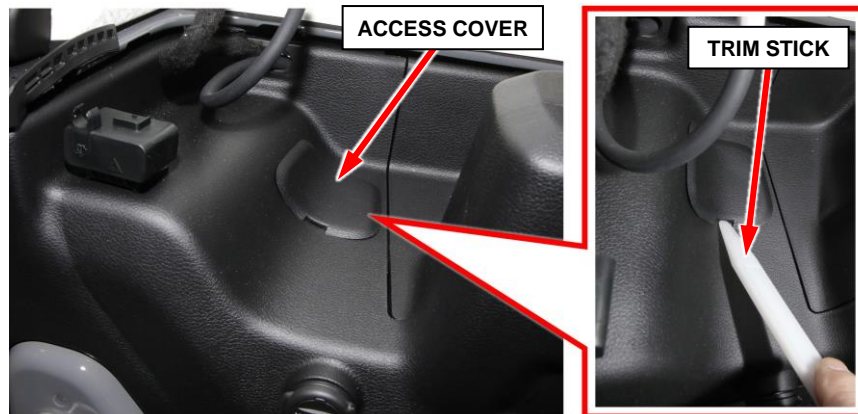

Figure 2 – Tail Lamp Bolt Access Cover
4. Using a trim stick, remove the tail lamp bolt access cover (Figure 2).
15. Install the access cover over the tail lamp bolt and make sure it is engaged securely (Figure 2).